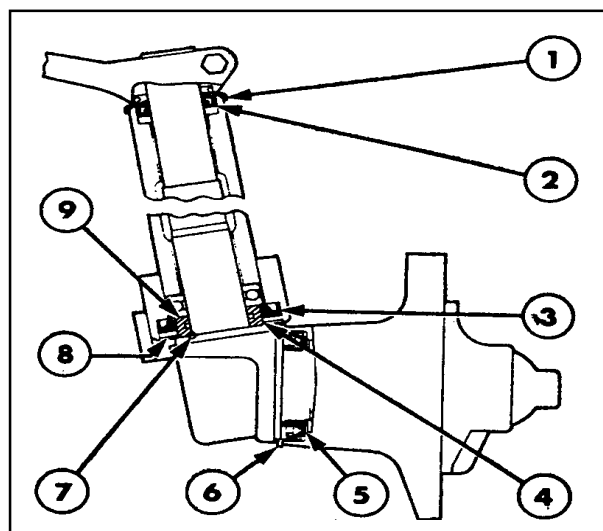

Figure 2
The track of front axle for Farmtrac-60 is adjustable from 48 in. (122 cm.) to 76 in. (193 cm.). Refer to Figure 2 and the table given below for the track setting.
Track Setting in. (cm.)	Axle bolt locations Refer to Figure 2
1. The steering spindle has been provided with upper and lower grease seals. An additional inner seal and thrust spacer are also provided on each spindle. Figure 2.